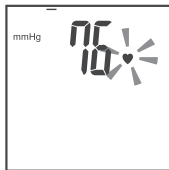

Fig.14
5. The symbol «♥» will start flashing synchronously with a sound signal, as soon as the sensor catches the pulse pressure (Fig. 14).